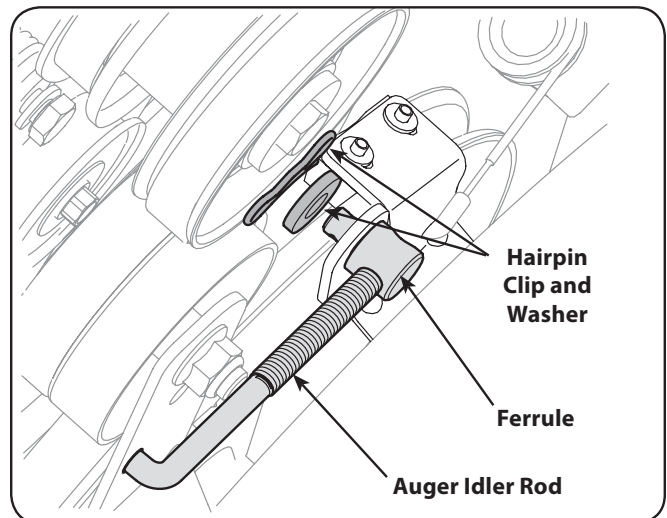

Figure 7-4
1. Remove the clip and flat washer from the ferrule in order to disconnect the auger idler rod from the brake bracket assembly. See Figure 7-4.
10. To adjust, disconnect ferrule from brake bracket assembly and thread ferrule in (towards idler) to increase tension on belt, and out to decrease tension. See Figure 7-4.